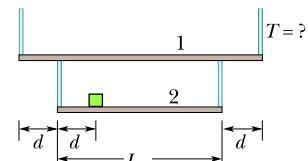

Figure 12.21 Problem 18.
**18 E GO** In Fig. 12.21, horizontal scaffold 2, with uniform mass  $m_2 = 30.0 \text{ kg}$  and length  $L_2 = 2.00 \text{ m}$ , hangs from horizontal scaffold 1, with uniform mass  $m_1 = 50.0 \text{ kg}$ . A 20.0 kg box of nails lies on scaffold 2, centered at distance  $d = 0.500 \text{ m}$  from the left end. What is the tension  $T$  in the cable indicated?